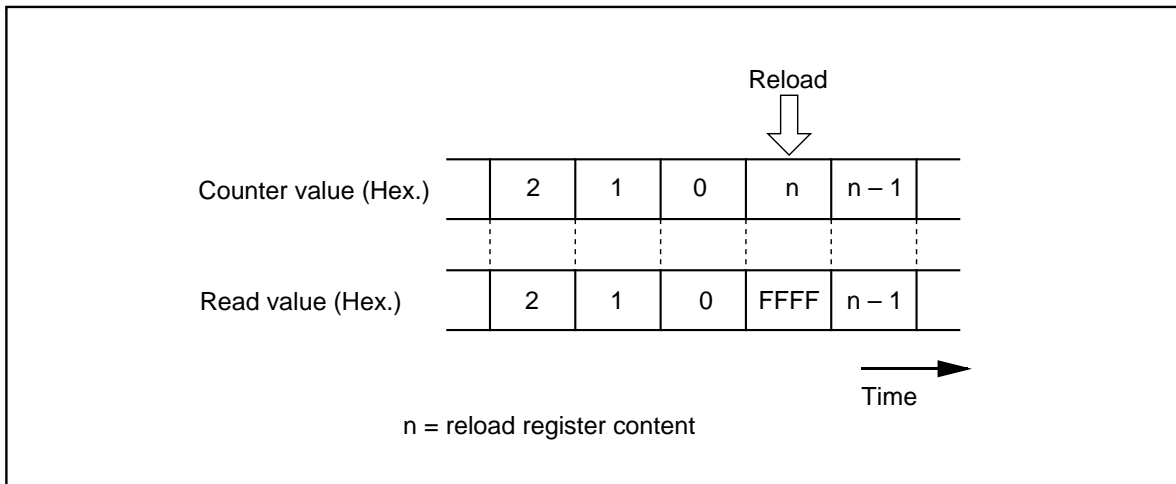

Figure 2.2.28. Reading timer Ai register
- (1) To clear reset, the count start flag is set to “0”. Set a value in the timer Ai register, then set the flag to “1”.
- (2) Reading the timer Ai register while a count is in progress allows reading, with arbitrary timing, the value of the counter. Reading the timer Ai register with the reload timing shown in Figure 2.2.28 gets “FFFF16”. Reading the timer Ai register after setting a value in the timer Ai register with a count halted but before the counter starts counting gets a proper value.